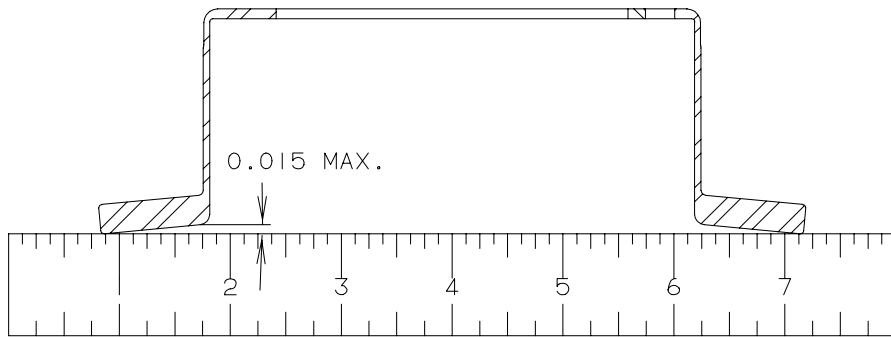

Figure 309 - Disc Coning Limits
- (7) Inspect brake disc for cracks, excessive wear, or scoring, mounting hole elongation, corrosion, and warpage. Remove corrosion and blend out small nicks using fine (400 grit) sandpaper. Replace brake disc if worn below wear limits detailed in Appendix A. Coning of disc in excess of 0.015 inch (0.381 mm) is cause for replacement. Ref. Figure 309.